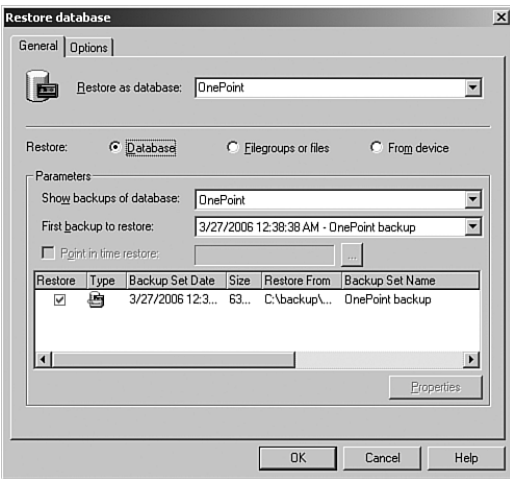

FIGURE 12.9 The Restore Database screen.
3. Restore the database from the last backup. Right-click on Databases and select All Tasks/Restore Database. This displays the Restore Database screen shown in Figure 12.9.